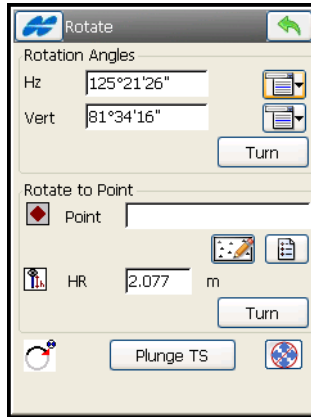

Figure 8-59. Rotate
8. To turn the Total Station, tap the **Turn**  icon and enter the desired horizontal and vertical angles, or the direction point on the **Rotate** screen. Tap **Turn** in the corresponding field to perform the rotation (Figure 8-59 on page 8-59). Tap  to return to the **Auto Topo** screen.